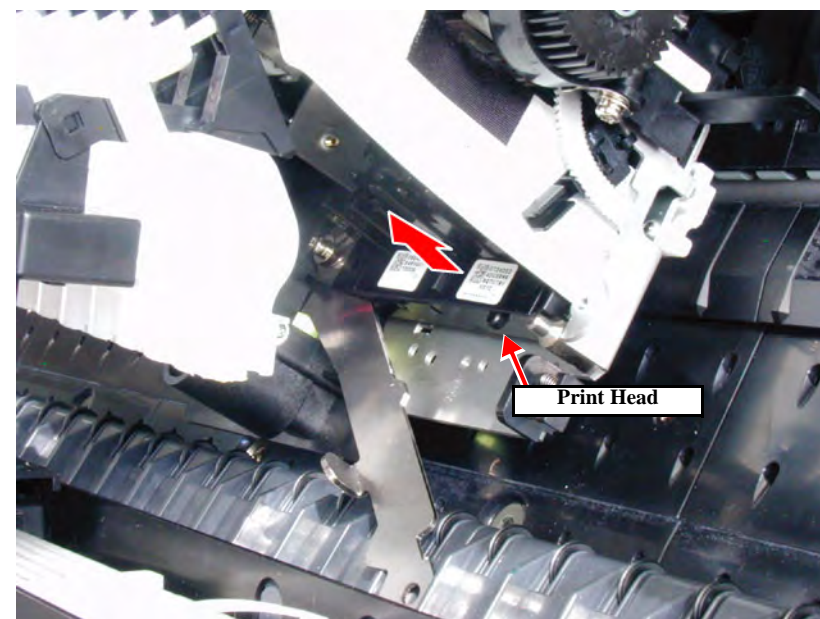

Figure 4-27. Head Removal
5. Take out the head by lifting its inner side and release the 2 FFCs. (See Figure 4-27)